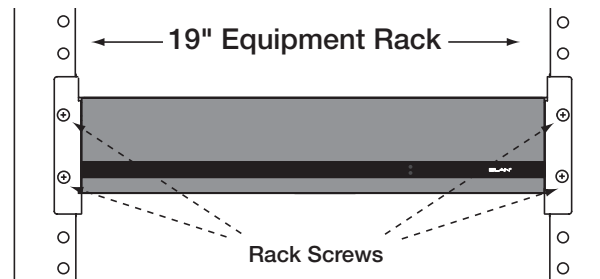

Figure 3-57.
2. Ensure that the brackets are flush with the front of the mounting kit. Install each of the eight screws (included) through the side mounting flanges into the holes in the sides of the unit as shown in **Figure 3-57**. **Hand tighten screws!** Over-tightening could cause damage to the S8.6 Controller.